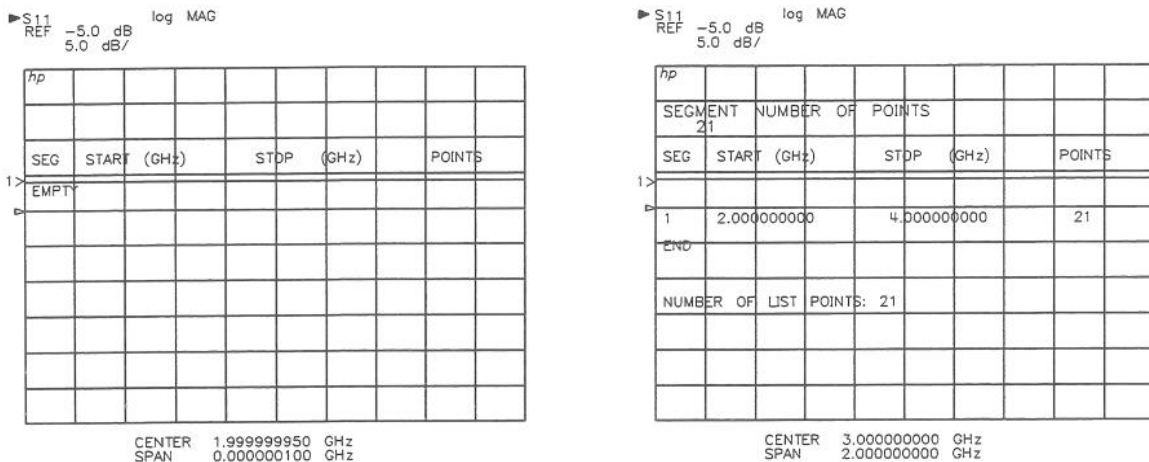

Figure 5-11. Enter the First Segment
3. Press **ADD**. The first segment appears as shown in Figure 5-11.